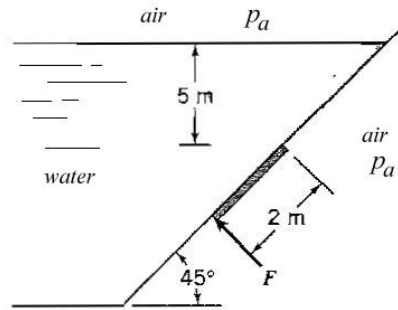

Figure P2.37:
2.37 A rectangular gate 1 m by 2 m , is located in a wall inclined at 45° , as shown in Figure P2.37. The gate separates water from air at atmospheric pressure. It is held shut by a force F . If the gate has a mass of 100 kg , find F .